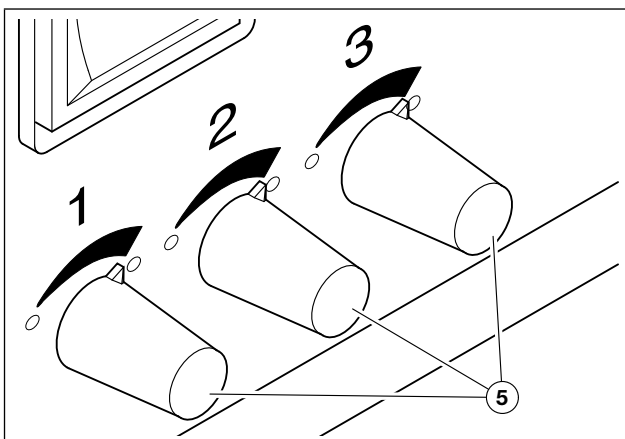

Fig. 3 Regulate partial powder quantity
The powder quantity sprayed by each powder nozzle can be finely adjusted at the respective nozzle valve head ⑤ (Fig. 3). Starting from the maximum setting an uneven powder output onto the printed sheet can be compensated by a partial closure of the relevant powder nozzle.